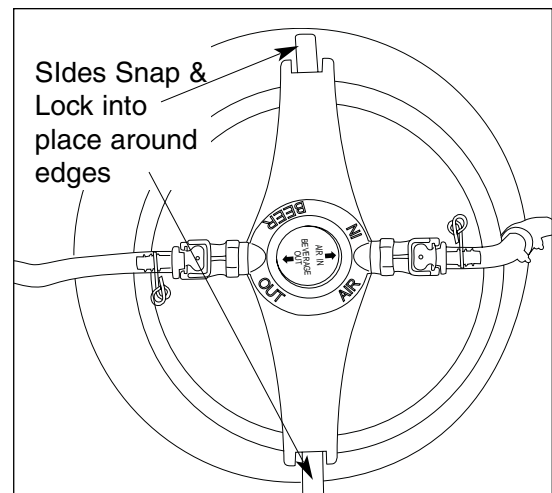

Figure 3
3. Insert the YELLOW RISING PIPE (attached to the YELLOW ADAPTER) into the top ventilation opening of the mini keg. (See *Figure 3*)
5. Make sure the YELLOW ADAPTER fits completely down on top of the mini keg and the sides of the ADAPTER snap and lock into place around the edges of the mini keg. (See *Figure 3*)